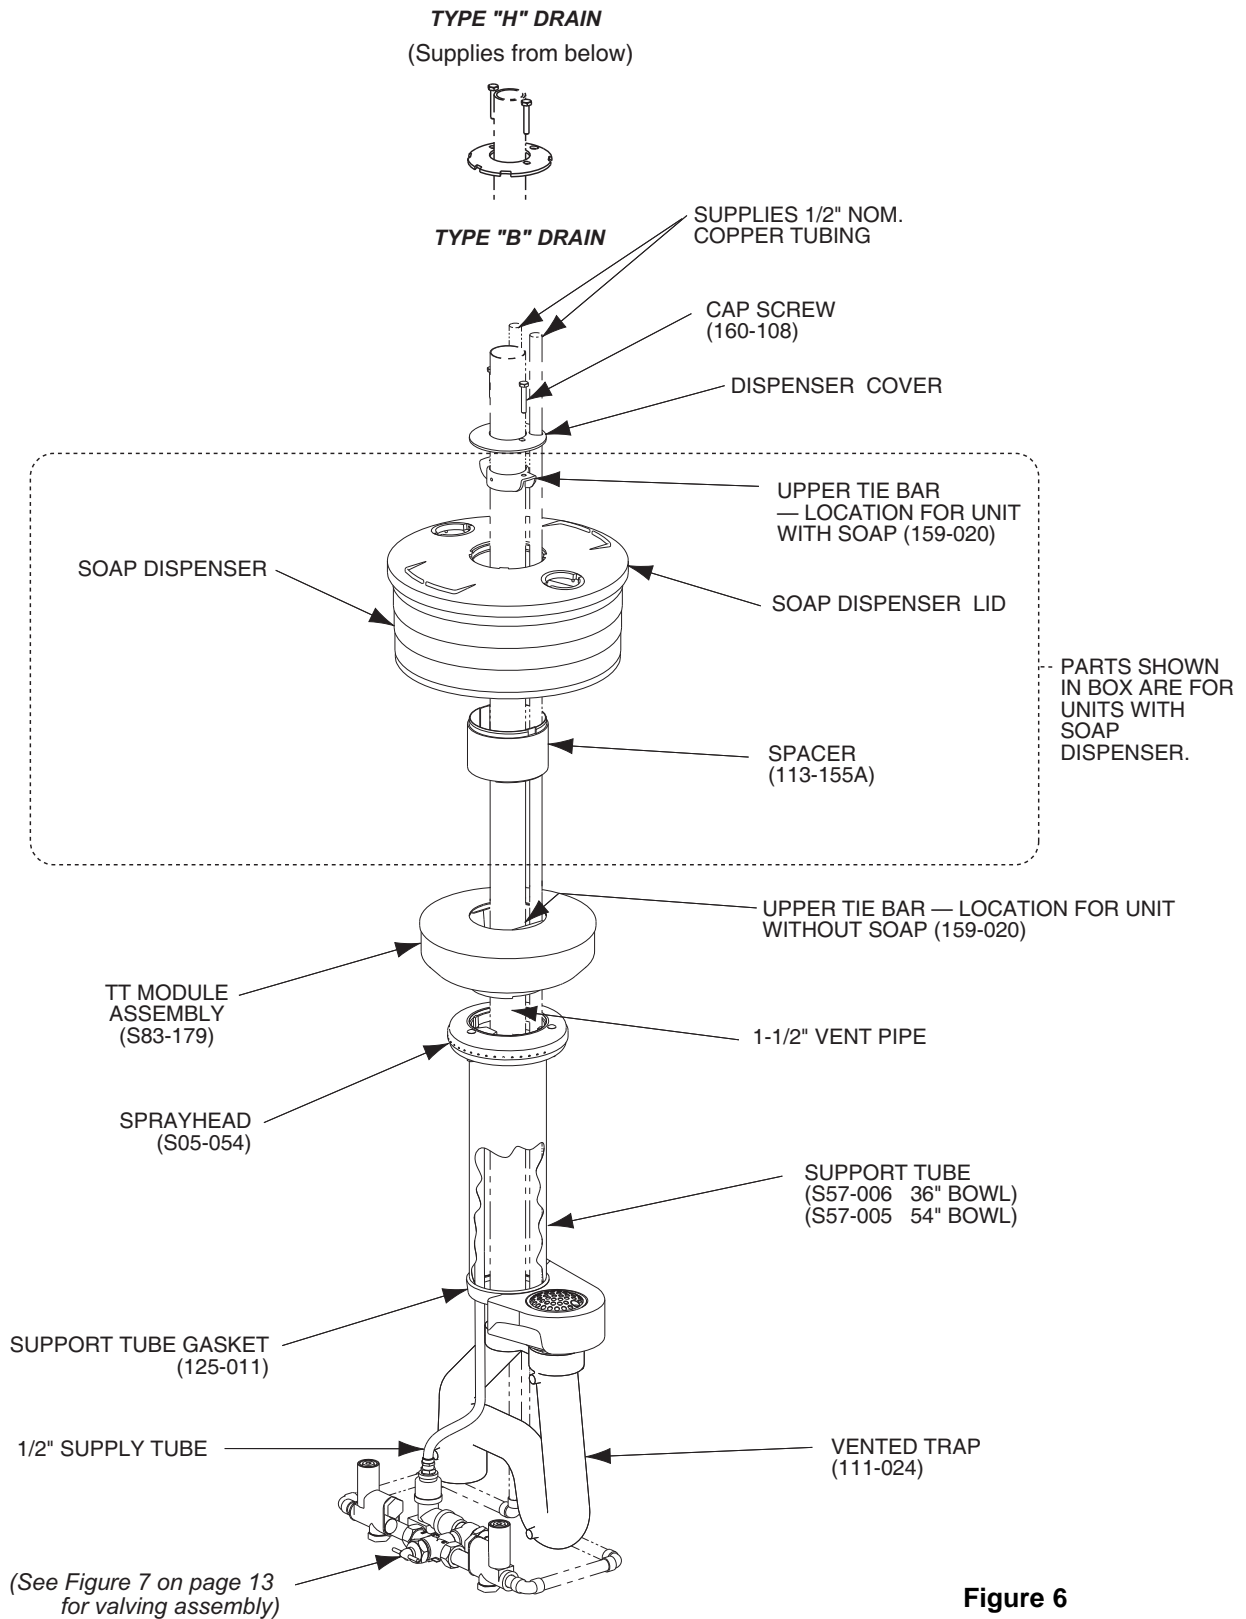

Figure 6
1. Install hemmed end (not sharp end) of support tube with gasket onto bowl as shown in Figure 6 on page 12.
3. Place sprayhead with 1/2" tubing onto support tube as shown in Figure 6. Run tubing down through support tube.
- 9a. **FOR UNITS WITH SOAP OPTION:** Place the spacer, soap dispenser and cover in position on top of Touch Time module (see Figure 6). Slide soap tie bar over 1-1/2" vent pipe 1/2" below top of soap dispenser cover and secure with the two cap screws included with the tie bar. Slide the dispenser cover over 1-1/2" vent pipe and secure with the two cap screws included with the tie bar.